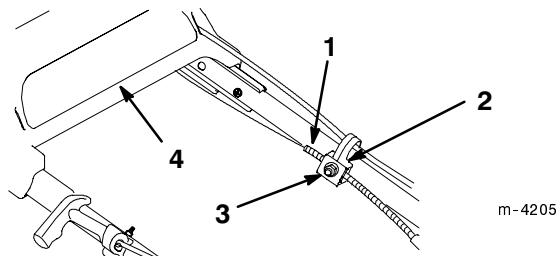

Figure 27
4. With the upper handle pushed back as far as possible and while holding the drive bracket down, pull the cable jacket down (toward the lawn mower) until there is no slack in the cable (Fig. 27).
5. Tighten the nut on the cable support (Fig. 27).
2. Loosen the cable support nut (Fig. 27).